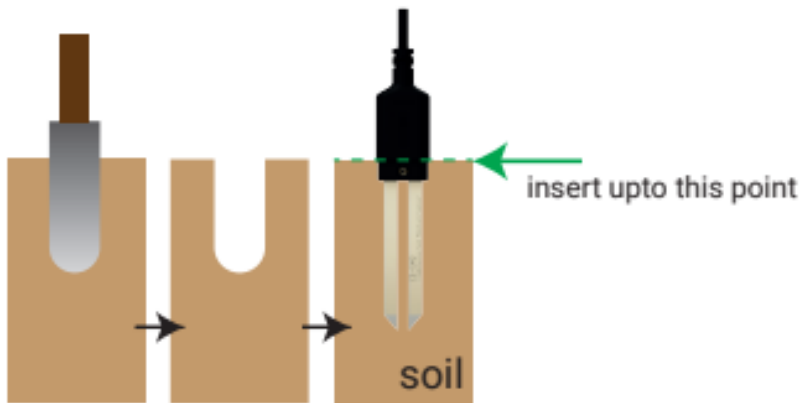

Figure 3.5: Placing Soil Moisture Sensor (CS-SM2) into the soil
Take a thin spatula (to minimize air gaps around the sensor) and make a pocket in the soil vertically as shown in the Figure 3.5. Gently place the soil moisture sensor (CS-SM2) inside the soil pocket and push the adjacent soil to fill gaps around the sensor. Bury the CS-SM2 up to the temperature sensor (8) as shown in the Figure 3.5.